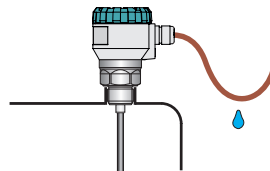

Fig. 15: Prevention to avoid intrusion of humidity through cable gland
- It is appropriate to lead the cable underneath the cable terminal (through the dip diagonally downwards) This will prevent potential "ingression of moisture through the cable grommet. Thereby, rain and condensing water can flow away freely, fig. 15.